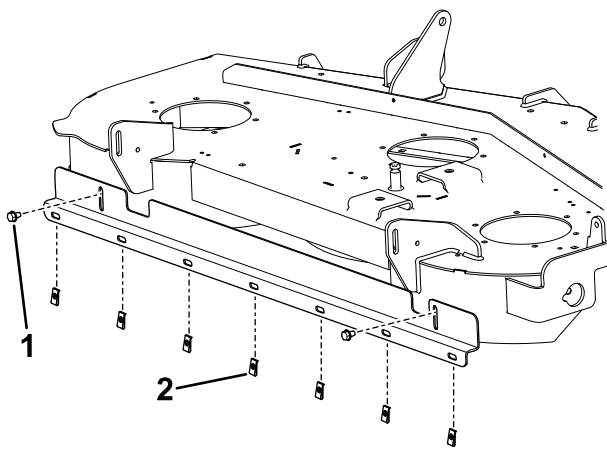

Figure 3
- Install the bracket to the holes using 2 thread-forming bolts (Figure 3).
5. Install 7 speed nuts to the open holes in the bracket (Figure 3).